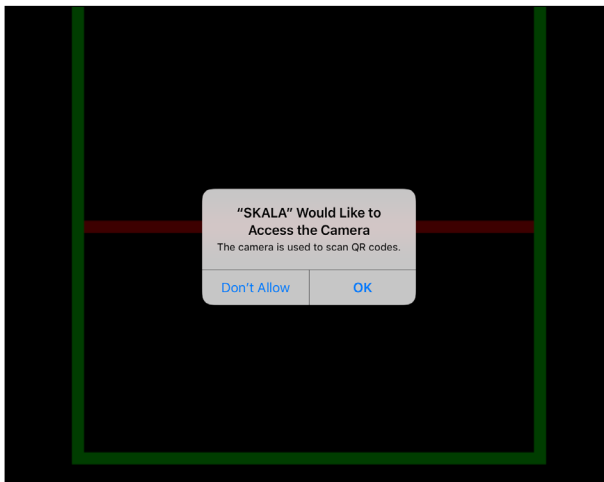

Figure 29 SKALA requests access to iPad camera
The iPad camera app will open, and a dialog will appear asking for permission to access the camera (Figure 29).
5. Select **OK** in the Camera app dialog window message to give SKALA access to the iPad's camera (Figure 29).
9. Verify that the AQUALAB 3 system is able to locate registered NEXUSES by opening the NEXUS window from the SKALA Mobile app Main menu (Figure 29).